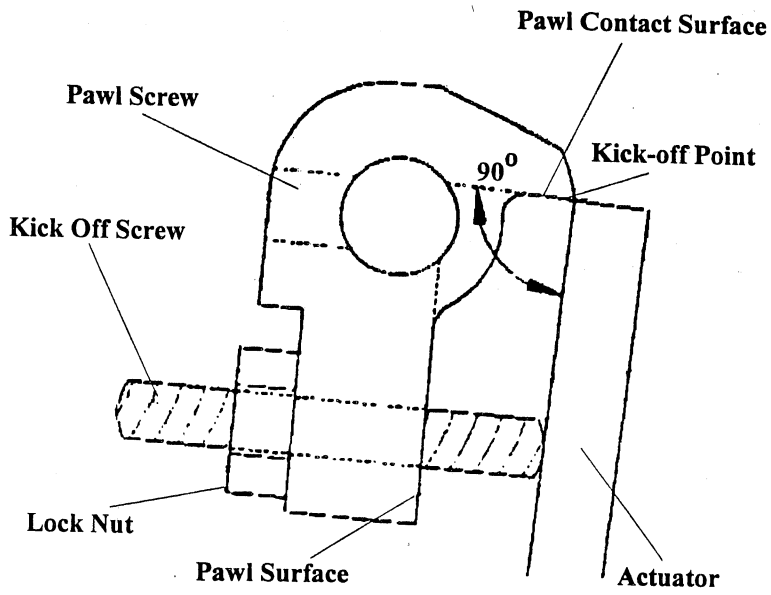

Figure 5
4. *Check* the position of the pawl contact surface, it should be approximately 90° to the actuator (Figure 5).
5. *Loosen* the arm locking screw, the draw-off shaft is in the most extended position, then *rotate* the pawl and shaft until the contact surface is 90° to the actuator and *tighten* the locking screw (Figure 5).
1. *Adjust* the kick-off screw inward approximately nine complete turns for minimum length (Figure 5).